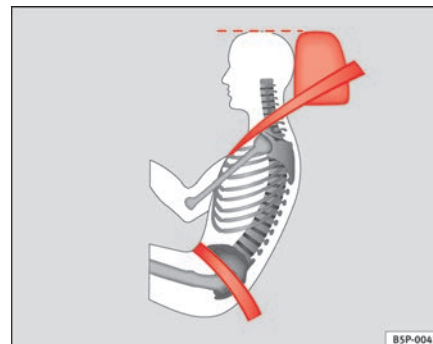

Fig. 13 Correct belt web and head restraint positions, viewed from side
- The lap part of the seat belt must lie across the pelvis, never across the stomach. The seat belt must lie flat and snugly on the pelvis ⇒ page 21, fig. 13. Pull the belt tight if necessary to take up any slack.